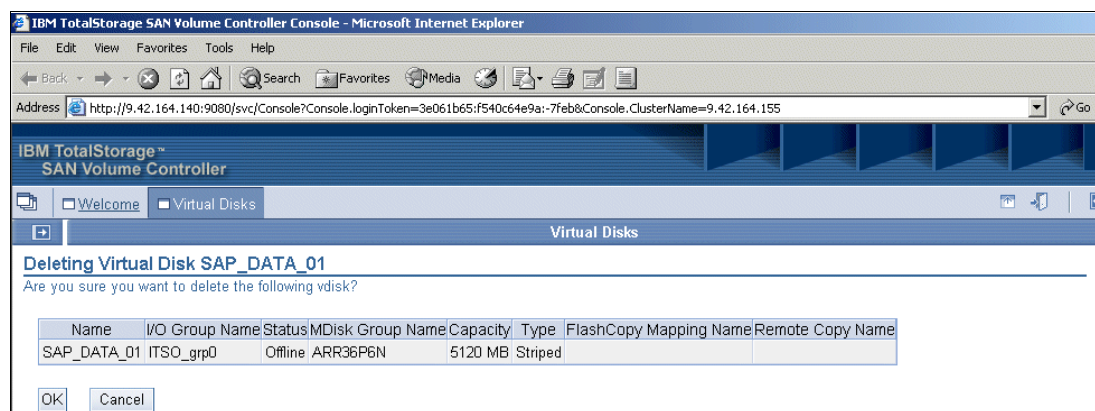

Figure 9-67 Deleting a vDisk
- On the Deleting Virtual Disk *vDiskname* panel (where *vDiskname* is the vDisk you selected in the previous step), click **OK** to confirm your desire to delete the vDisk. See Figure 9-67.